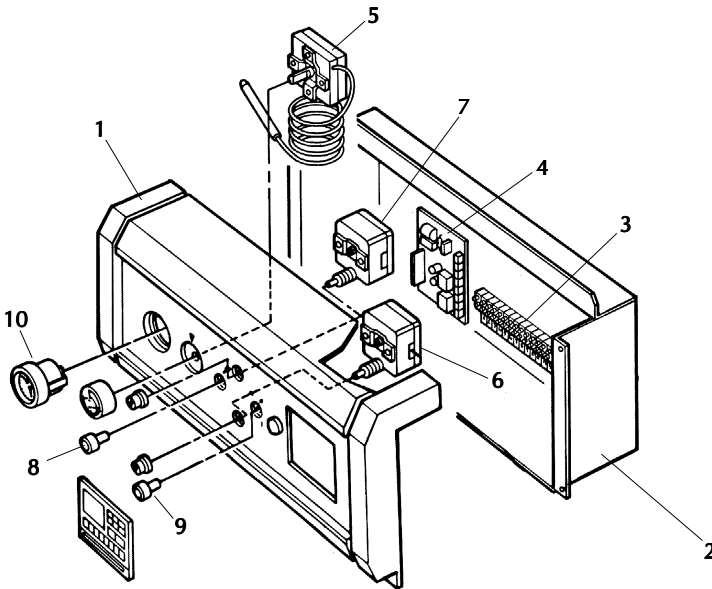

Fig. 6
Caution: Handle the flame control electronic board (part 4 in fig. 6) and its connections with particular care.
4.03 Exploded view of the control panel (fig. 6)